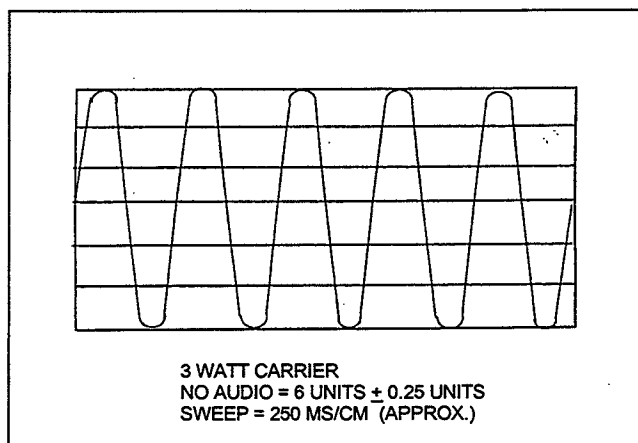

Figure 3-14. Typical carrier output with no audio.
4. Connect a 300 ohm resistor between pins 16 and ground of the 67 Voice Card. The power output is  $12.5 \text{ Vrms} \pm 1.5 \text{ dB}$  (3 watts). Adjust the scope amplitude as shown in Figure 3-14.